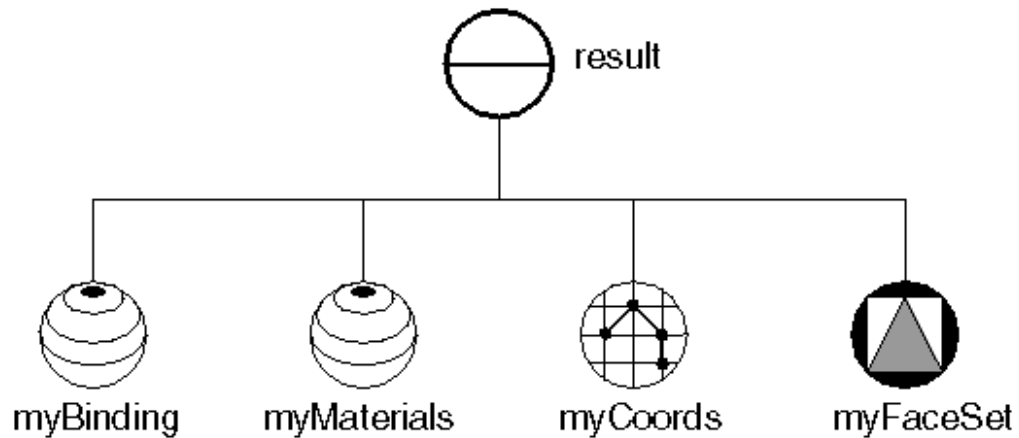

Figure 5.8 Scene Graph for Material Binding Example
Example 5-5 illustrates different types of material binding using the dodecahedron created in Example 5-2 (the common code has been omitted here). The scene graph for the example is shown in Figure 5-8. When you run the program, you can type a number to select the type of material binding, as follows:
- 0 for `PER_FACE` (see Figure 5-8)